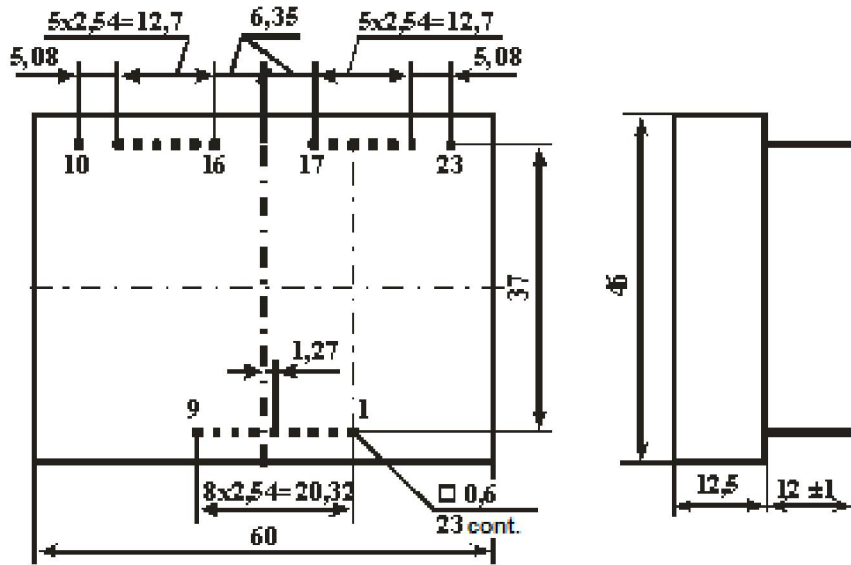
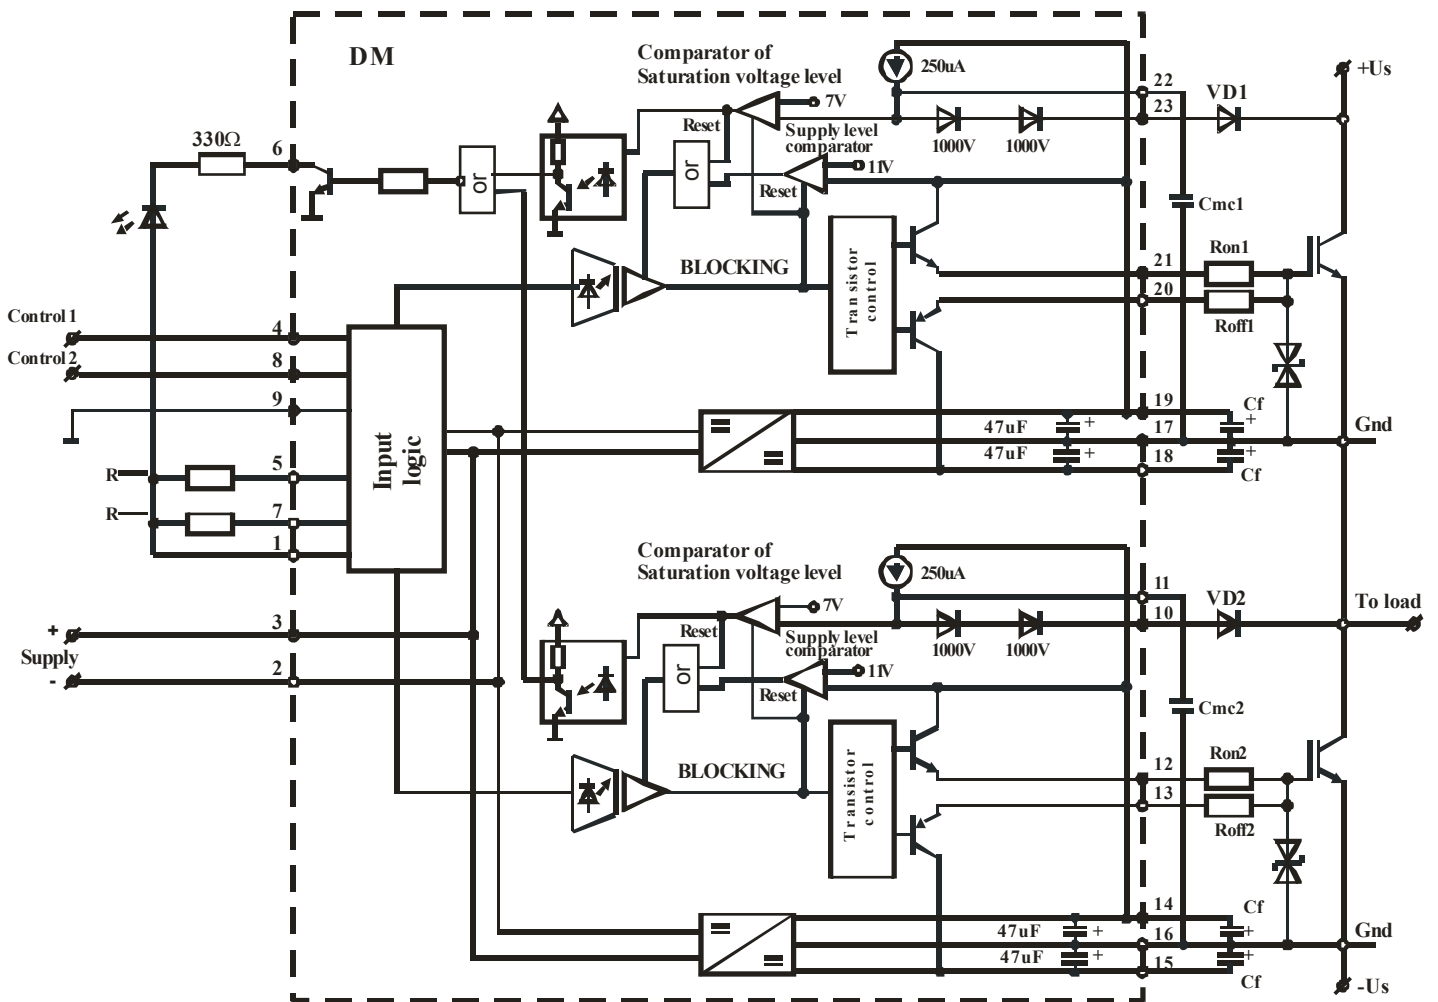

Figure 1 – Overall driver drawing
Figure 2– Functional circuit and driver turn-on circuit
3.1 Overall drawing is shown at Figure 1, functional circuit and driver turn-on circuit are represented at Figure 2.
MC1, MC2 – collector connection outputs (drain) of controlled transistor. Outputs are intended for voltage fall control (saturation protection) on the transistor. Meanwhile maximum protection operation threshold value is equal to 5.8 V (if the external elements are not installed). Protection operation threshold is regulated by external elements installing (Zener diodes and diodes); voltage fall on Zener diodes and diodes at current 250 μA is deducted from the maximum voltage (5.8 V). For example, if Zener diode with rated Zener voltage 3.3 V and two diodes with voltage fall 0.7 V at current 250 μA are set sequentially (ref. to recommended connection circuit at Figure 2), then protection operation threshold will be equal to $5.8 - 3.3 - 2 \times 0.7 = 1.1$ V.
OUToff1, OUToff2, OUTon1, OUTon2 – outputs meant for connection of controlled transistors gates. The recommended connection circuit is shown at figure 2. Voltage limiter should be set with rated breakdown voltage not less than 16 V and not more than maximum-permissible gate voltage. It is recommended the limiter with rated breakdown voltage 18 V. It is allowed to install Zener diodes with corresponding rated Zener breakdown. If the controlled transistor is installed at a remote distance from the driver, then the limiter should be installed direct to transistor.